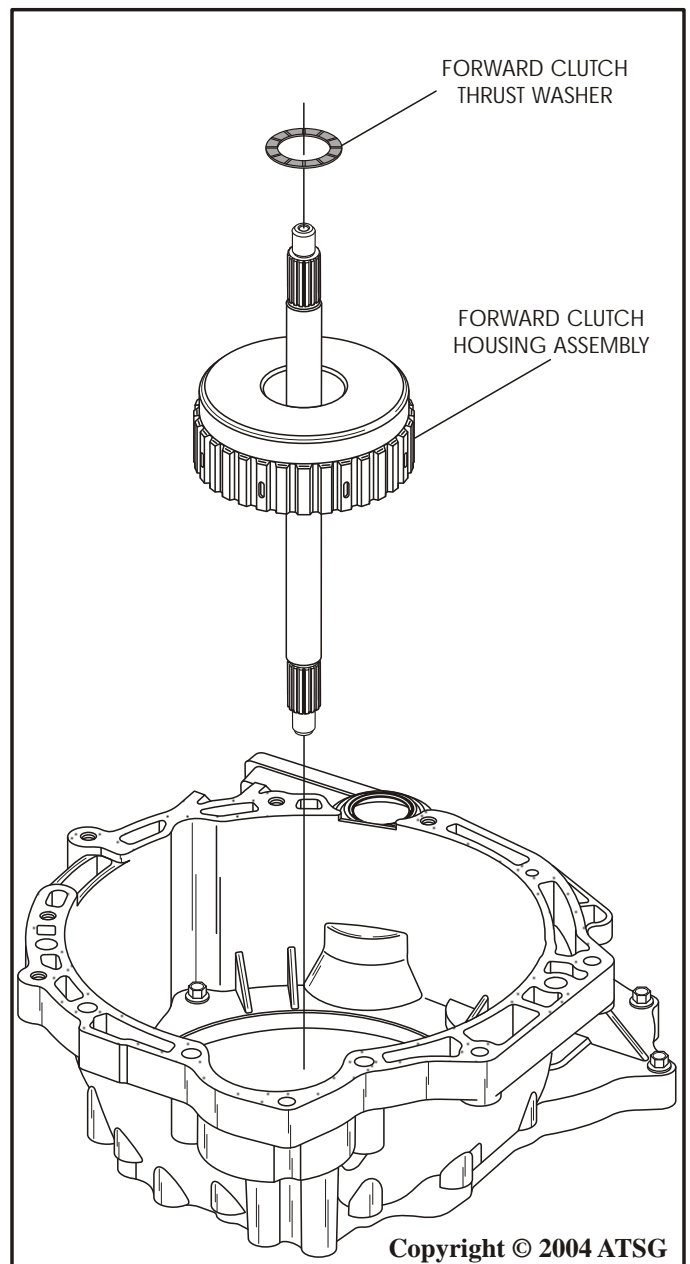

Figure 185
66. Install the completed forward clutch housing, as shown in Figure 185, by rotating back and forth until all clutch plates are engaged on the forward clutch hub.
67. Install the forward clutch housing to oil pump support thrust washer, as shown in Figure 185.